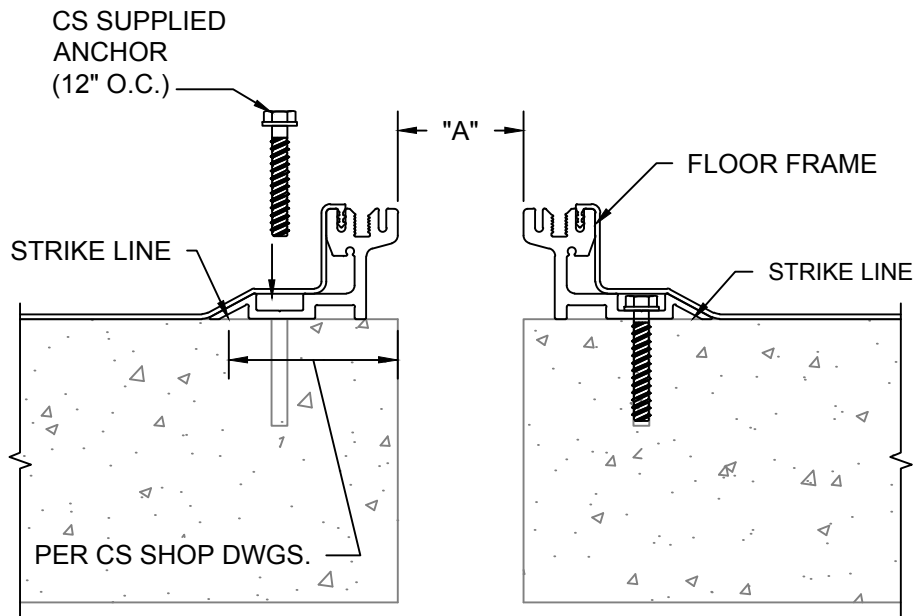

FIGURE 2.1
- 2.1) Locate the back edge of the Floor Frame by measuring back per CS shop drawing from the edge of expansion joint and striking a line the length of the run. (See Figure 2.1)